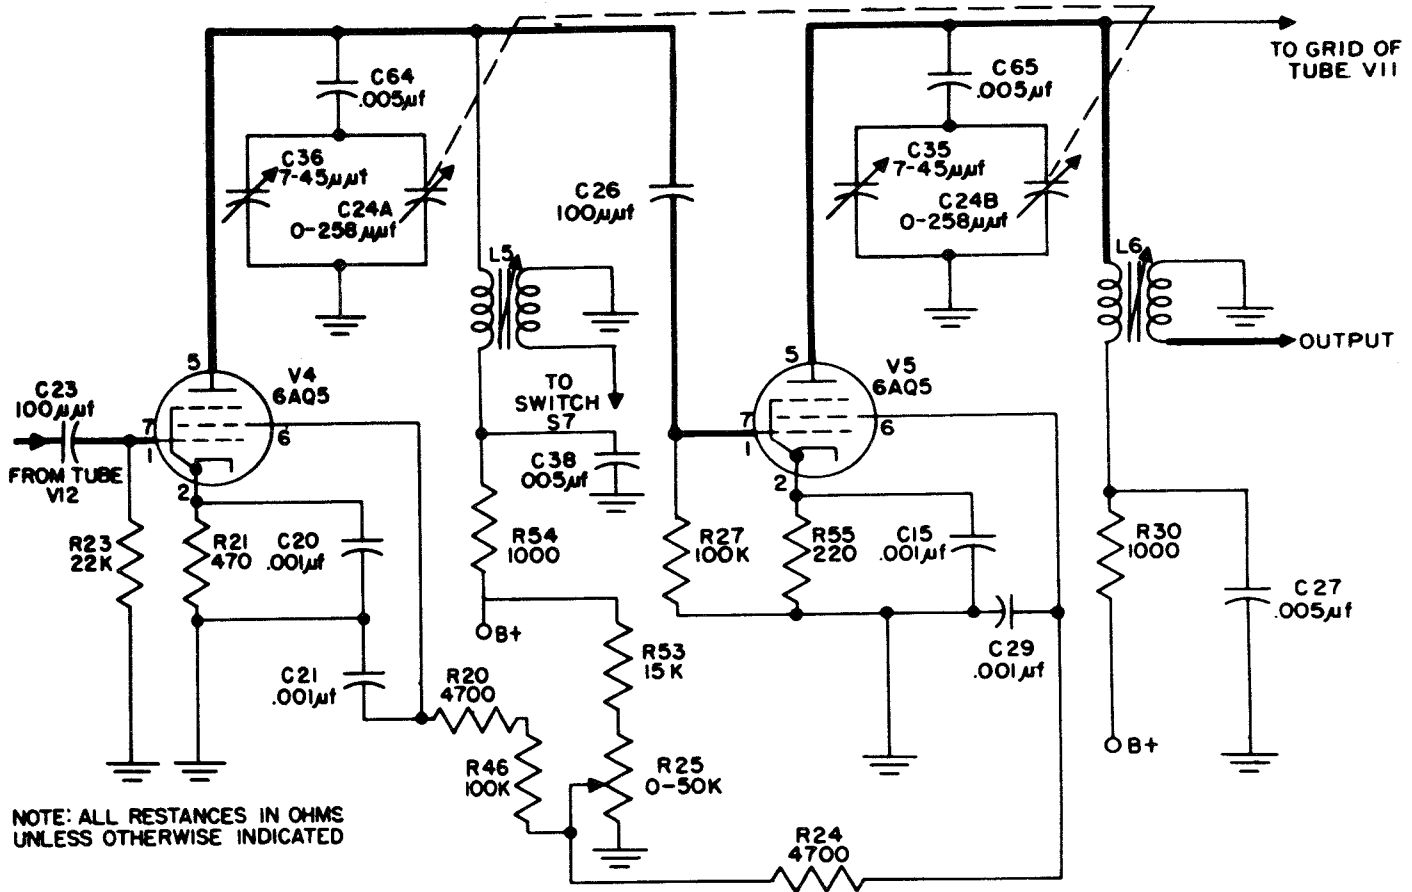

Figure 2-5. FREQUENCY RANGE MC Switch in "8-16" Position, Simplified Schematic
(4) 8-16 MEGACYCLES. (See figure 2-5.)—FREQUENCY RANGE switch S7 is set to "8-16" megacycles. The grid, cathode, and plate connections of tube V4 are the same as in "4-8" megacycle operation. The screen grid voltage is applied through resistors R53, R25, R46 and R20. The plate of tube V4 feeds the four to eight megacycle signal to the grid of tube V5 through coupling capacitor C26. Bias for tube V5 is provided by grid leak resistor R27, and by cathode resistor R55 in parallel with capacitor C15. Screen voltage is applied through resistors R24, R25 and R53, and is filtered by capacitor C29. Capacitor C65 provides a d-c block to main tuning capacitor C24B and trimmer capacitor C35. Plate voltage, which is filtered by resistor R30 and capacitor C27, is fed through the primary of inductor L6. The resonant plate circuit, consisting of capacitors C24B, C35, C65, and C27, and the primary of inductor L6, is tuned to twice the frequency supplied to the grid of tube V5. The doubled frequency is fed to the output connectors from the secondary of inductor L6, and is also applied to the grid of tube VII. However, tube VII is inoperative because the screen grid is disconnected.